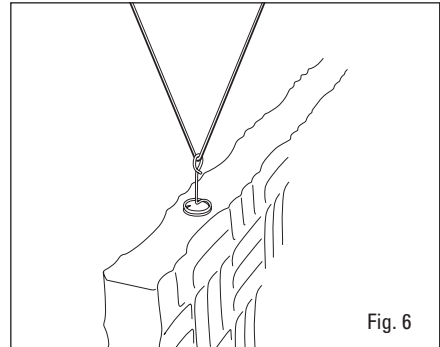
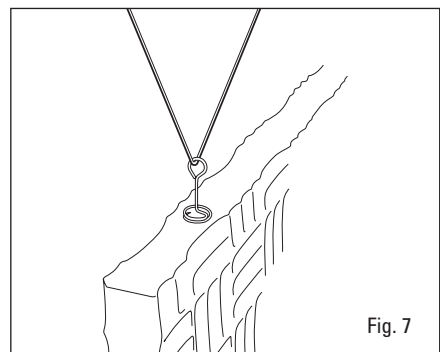

Fig. 6
Fig. 7
- C3. If installing SONEX[®] Valueline or WHISPERWAVE Baffles, slip the eye loop of the corkscrew over the cable (Figure 6). Turn the eye loops approximately 1/4 turn counterclockwise so the eye loop is perpendicular to the baffle, locking the cable in place (Figure 7).